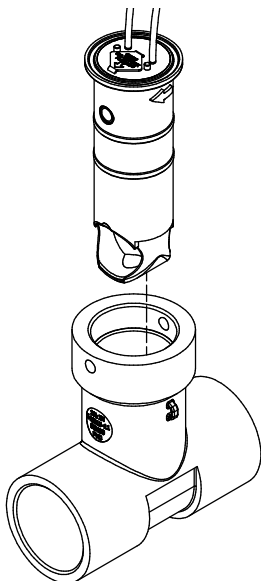

Figure 15
1. The Tee insert bore must be clean before installing the insert and the (2) black O-rings on the insert should be fully lubricated.
4. Push down on the insert flange and twist slightly to install, and to align the retaining pin holes in the insert with the holes in the Tee (see Figure 15).